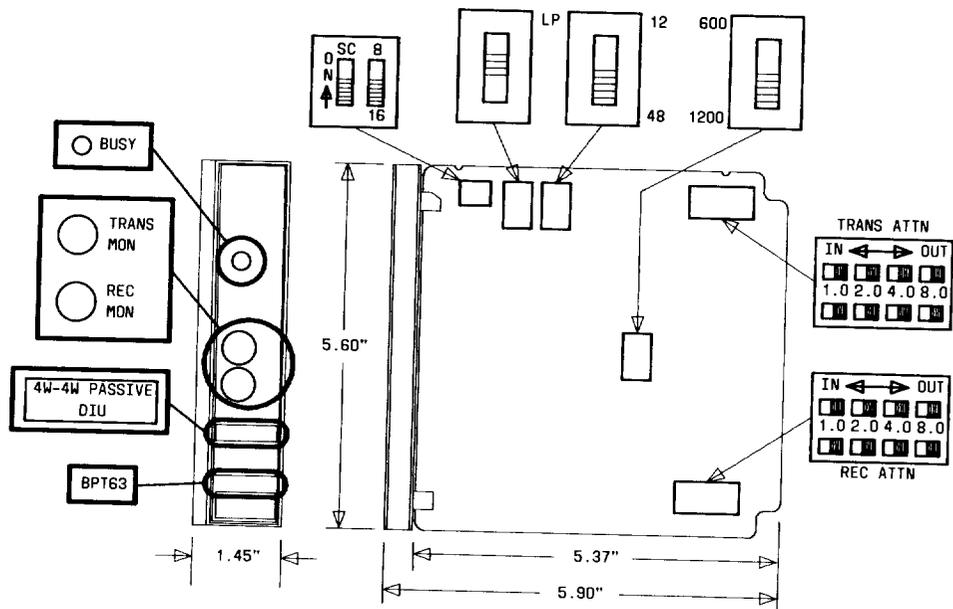

Fig. 2 — BPT63 Unit Controls and Faceplate
**4.04** As shown in Fig. 2, the ATTN switches have two rows of rocker switches. These switches are mechanically tied together so that setting a switch in one row will automatically set the corresponding switch in the other row to the same position. For convenience, the sum of the switch markings (1.0, 2.0, 4.0, and 8.0) show the amount of attenuation supplied when the switches are placed in the IN position. Note that the attenuation provided by the ATTN switches is in addition to a 1-dB loss in both directions through the unit.